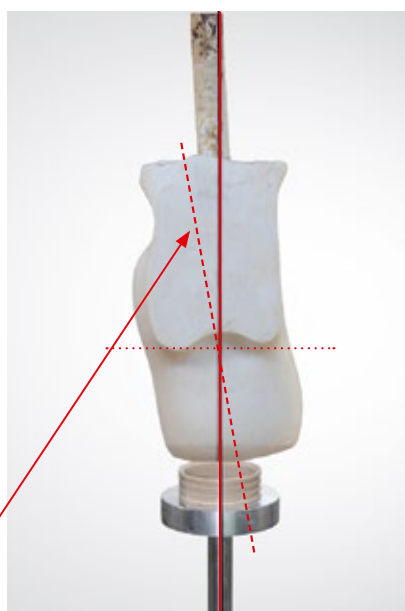
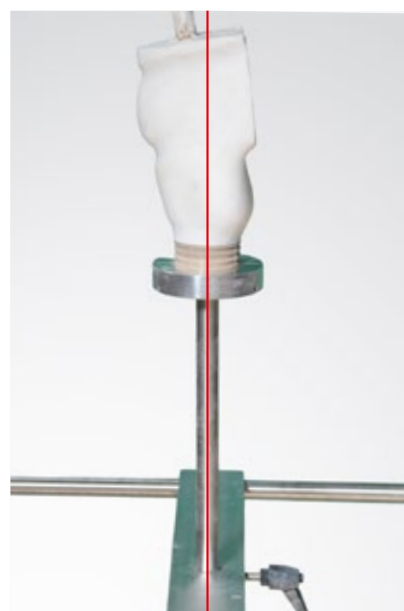

Fig 18
Fig 21
(A) Alignment of a short TT positive model (from Fig 18 to Fig 21)